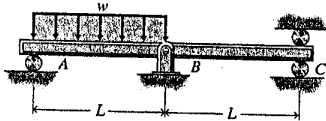

Fig. 3
- A beam is loaded and supported as shown in **Fig. 3**. Note that  $w$  is the intensity of a uniformly distributed line load and  $E$  and  $I$  are constant for the entire beam. Determine